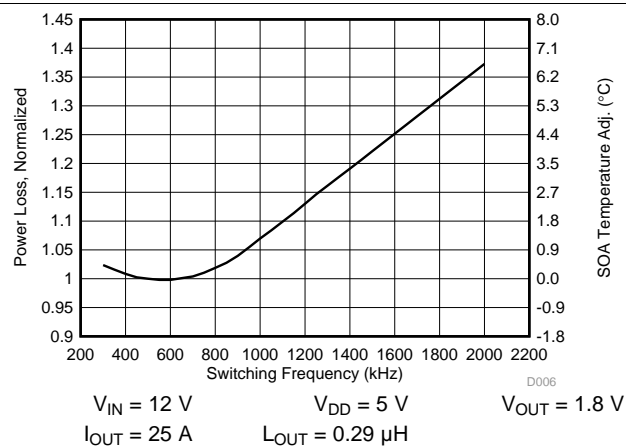

Figure 8. Normalized Power Loss vs Frequency
- Normalized Power Loss for switching frequency ≈ 1.02 (Figure 8)
- SOA adjustment for switching frequency $\approx 0.3^{\circ}\text{C}$ (Figure 8)